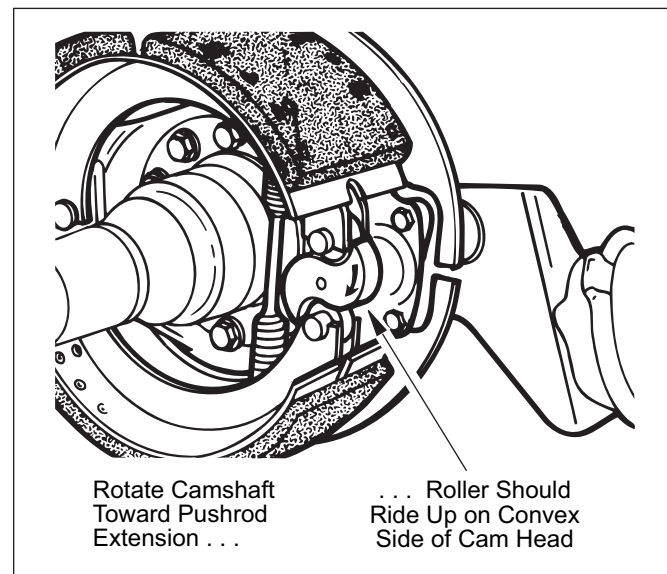

Figure 52. Camshaft Installation
2. To ensure that camshaft being installed is correct for the application, rotate camshaft in the direction of air chamber push rod extension and check that the roller starts to ride up on the convex side of the cam head. Refer to Figure 52.